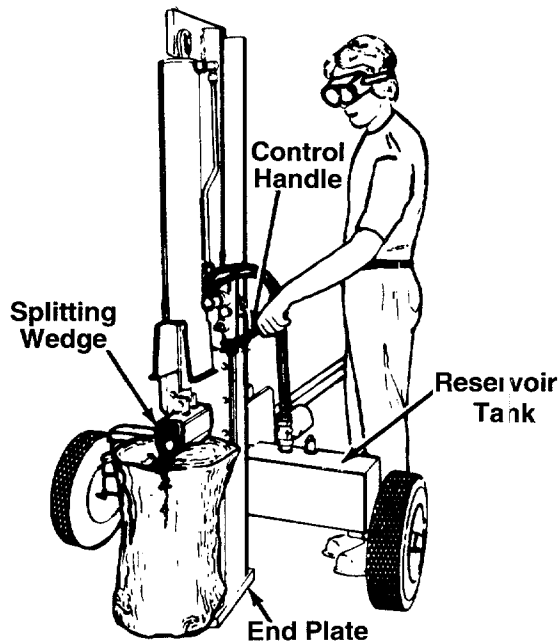

FIGURE 13.—Vertical Position
Use the log splitter only on a level, hard surface. Never stand next to the splitting wedge when operating the log splitter. Always stand behind the reservoir tank. See figures 13 and 14. Never attempt to cut a log in half sideways. Always split the log lengthwise. Maximum length of log to be split is 24".
4. Step behind the reservoir tank (see figures 13 or 14) and push the control handle in forward position until the log is split.